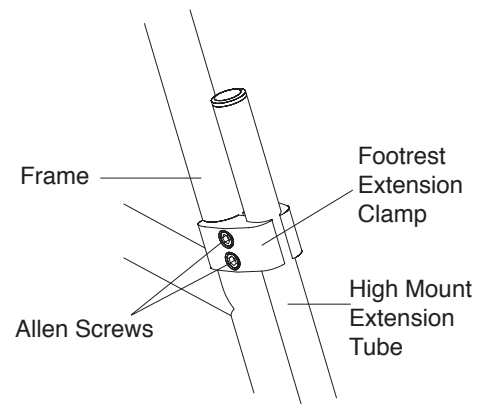

Figure 9
1. Loosen the two Allen Screws through the footrest extension clamp that secures the high mount extension tube to the frame. See Figure 9.